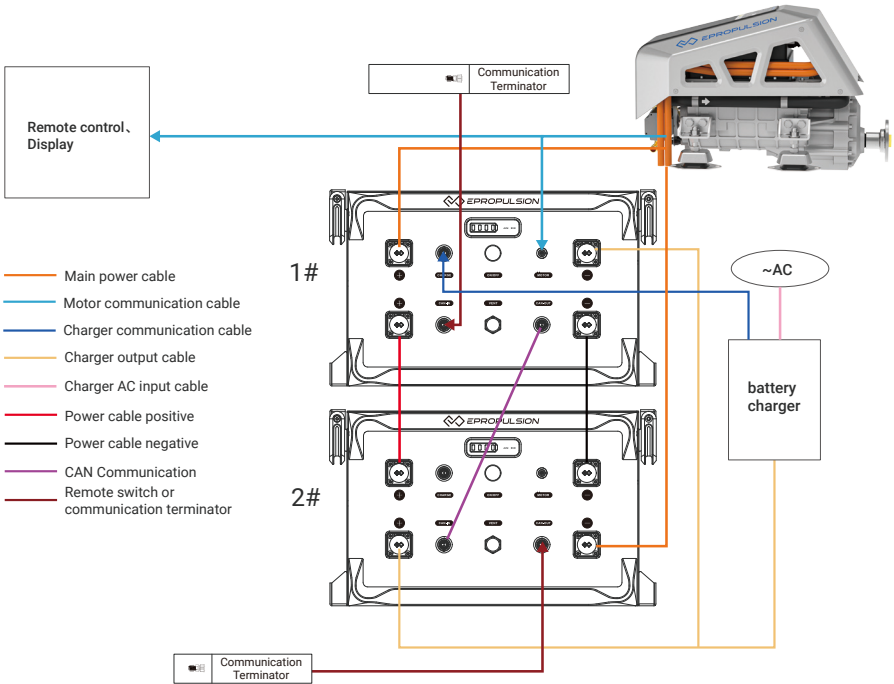

Figure 2-1
battery communication cable (purchased separately) to connect each battery. 1# battery (refer to Figure 2-1) CAN-OUT and 2# battery CAN-IN interface are connected by E battery communication cable, and so on. Please refer to the following diagram.
2. Connect the battery to the machine, smart throttle and display panel with the communication cable of the control system (refer to figure 2-1).